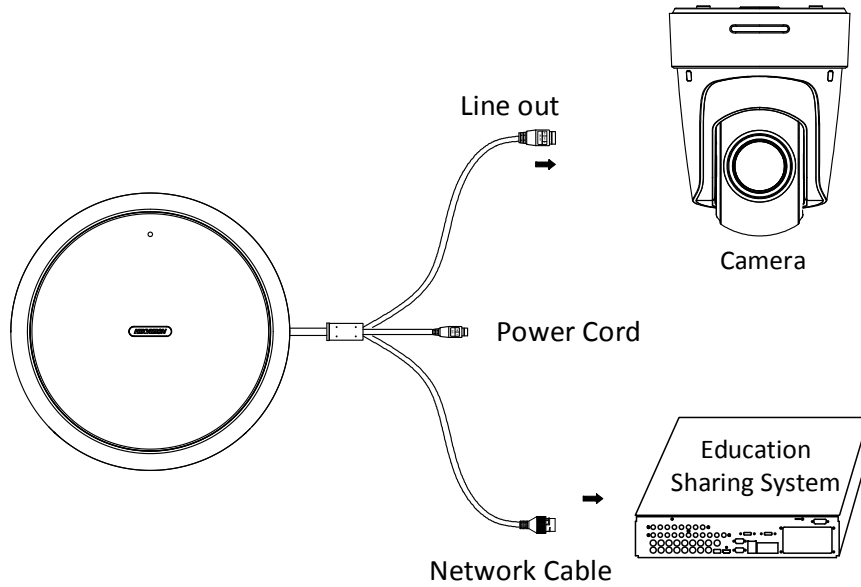

Figure 1-3 Using Scenario I
- Type II microphone can also directly connect to the education sharing system. Refer to Figure 1-3 for detailed information.